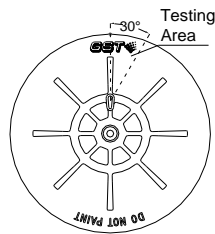

Fig. 8
- When multiple detectors are connected with a remote indicator, a diode 1N5819 should be connected to Terminal 4 of the orientation base in series before going to the positive of the remote indicator. System composition is shown in Fig. 8.